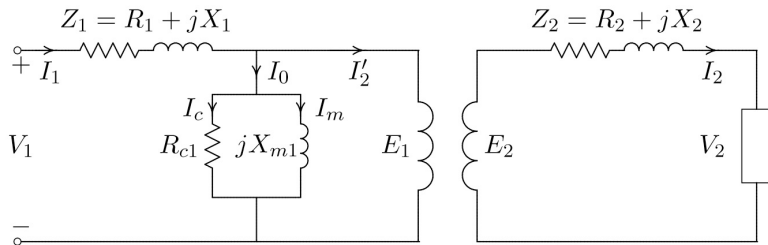
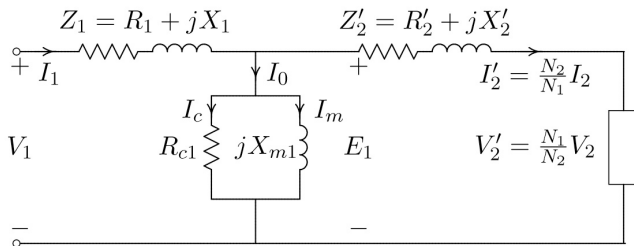

Figure 2: Equivalent circuit of a transformer.
Figure 3: Exact equivalent circuit referred to the primary side.
- Thus a real transformer would be as shown in Figure 2.
Relation (11) is the KVL equation of the secondary side referred to the primary, and the equivalent circuit of Figure 2 can be redrawn as shown in Figure 3.